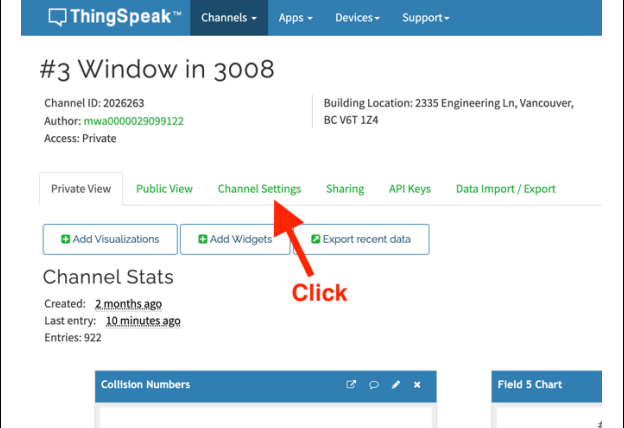

Figure 19: Click "Channel Settings" to change the dashboard name.
2. Click “Channel Settings” as shown in Figure 19.